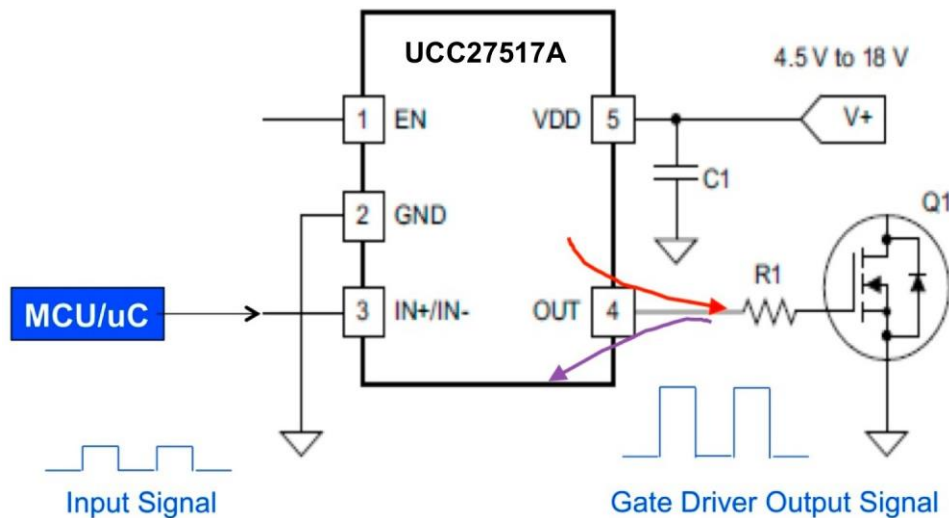

Fig. 4. Low-side, single-channel gate-driver IC driving Q1 using a digital controller.
Fig. 4 shows an example of a low-side, single-channel gate-driver integrated circuit (IC) driving Q1 using a digital microcontroller unit (MCU).